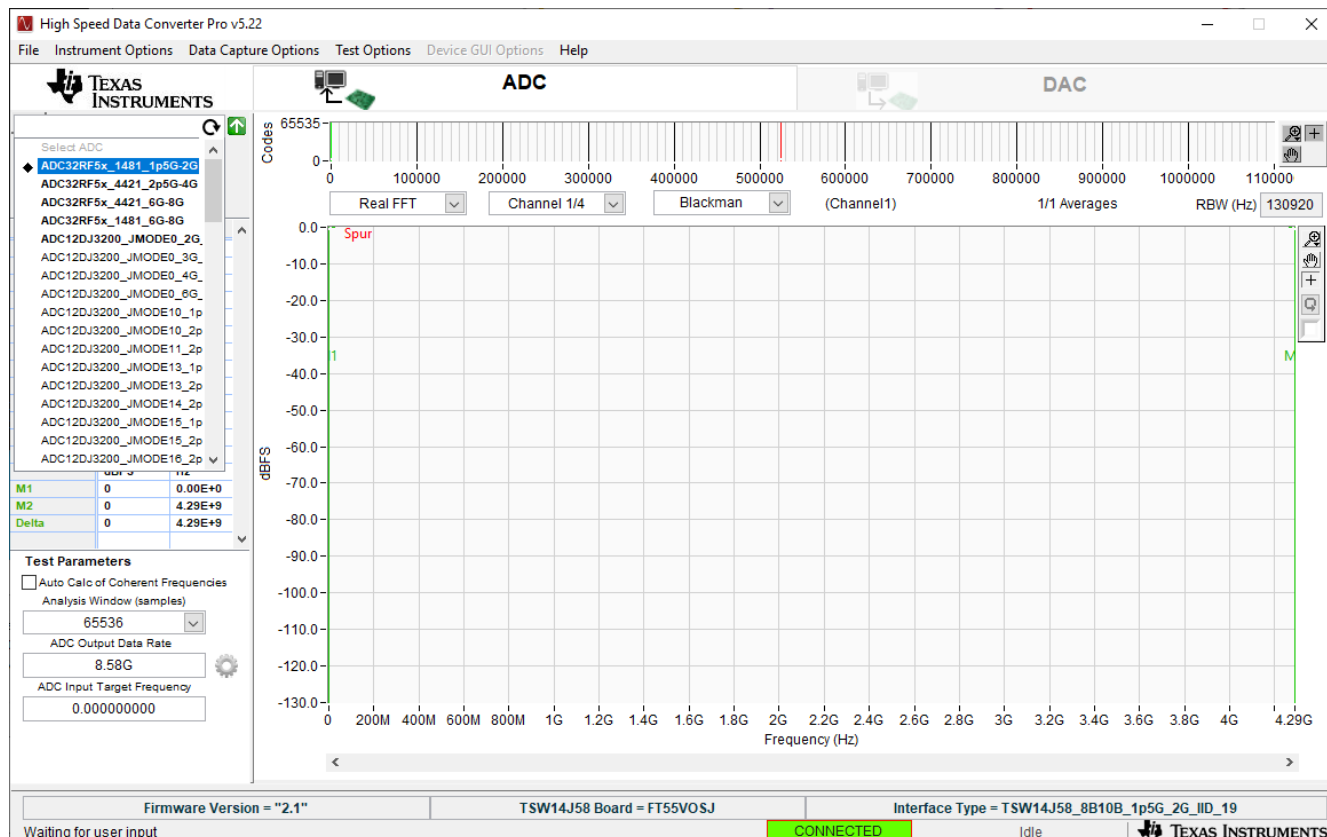

Figure 3-11. ADC32RF5x_1481_1p5G-2G INI File
10. In HSDC Pro, connect to the TSW14J58EVM and select *ADC32RF5x_1481_1p5G-2G* as the INI file shown in Figure 3-11.